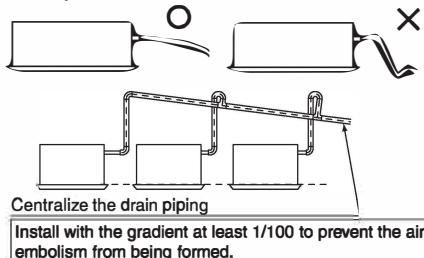

Figure 14
- (1) Install the drain piping.
- To prevent the air embolism from being formed , shorten the drain piping as much as possible and slant it downward. The gradient should be 1/100 or more. (Refer to Figure 14)
- To use the converging drain piping, connect in accordance with Figure 14.
(2) Check if the drainage is proper after completing installation.